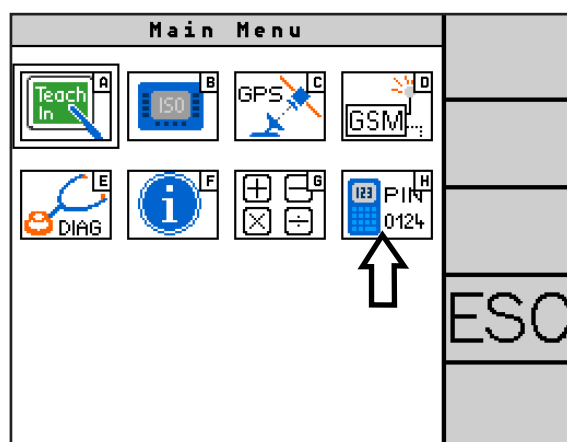

Fig. 128: Call up code entry
Select the PIN symbol (H) in the main menu (see Fig. 128) to call up the code input.